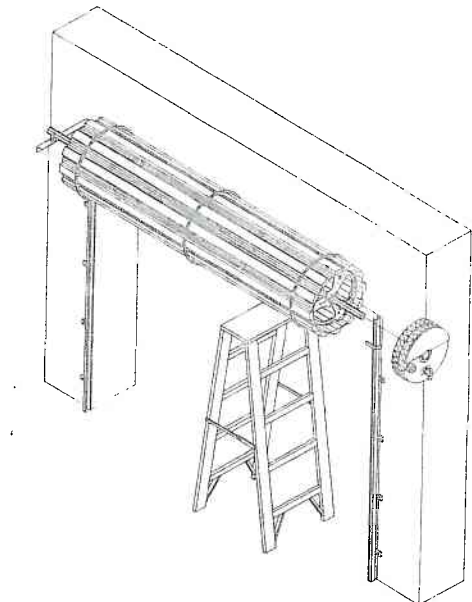
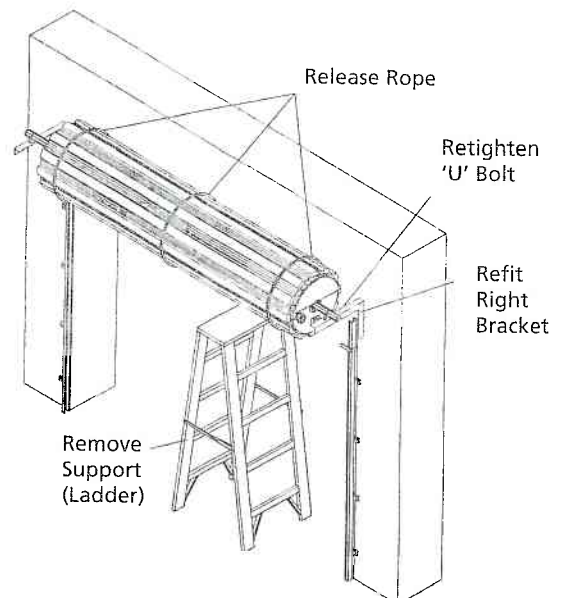

Fig. 3
Fig. 4
- e) Make sure the door supporting prop is secure. While the door is supported remove the right hand wall mount bracket. (Fig. 3)
- f) Remove the geared motor (27) and motor spacer (28) from the packaging material. Align the spacer over the three motor mounting holes and insert the motor assembly between the spoke sections of the drum wheel. Align the assembly with the three counter sunk holes in the spoke section, Affix with screws supplied 3 X (6x25mm counter sunk) using an appropriate flat bladed screwdriver. (Ensure the motor assembly is securely fixed to the drum wheel before proceeding)
- g) Remove the motor shaft screw and slide on the main drive gear (10), refit the shaft screw and tighten.
- j) Slide the Main Ring Gear (32) over the door axle and engage teeth with the motor drive gear.
- k) Slide main body (2) over door axle, make sure the manual release pin (23) is in manual position. locate contact brushes (25) into inner and outer slip ring (7,8)
- l) The Main Body should now be sitting flush up against the Ring Gear. Attach Split Ring (9) to Slip Ring extrusion and secure split ring self tapping screw. (6 3/8)
- m) Replace right hand side wall mount bracket (Fig. 4)